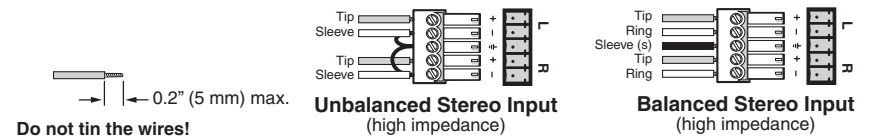
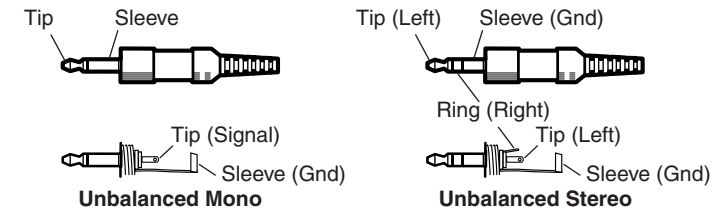
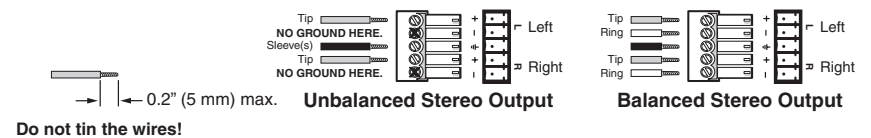

Figure 8 — Captive screw input connector wiring
Figure 9 — Phono audio connectors
Figure 10 — Captive screw connector wiring for audio output
- ⑤ **Audio Input connector** — Connect a balanced or unbalanced audio input to this 3.5 mm, 5-pole captive screw connector. Connectors are included, but you must supply the audio cable. See figure 8 to wire a connector for the appropriate input type and impedance level. High impedance is generally over 800 ohms.
NOTE When making connections for the MDA from existing audio cables, see figure 9. A mono audio connector consists of the tip and sleeve. A stereo audio connector consists of the tip, ring and sleeve. The ring, tip, and sleeve wires are also shown on the captive screw audio connector diagrams, figure 8 and figure 10.
- ⑥ **Audio Outputs (1 through 3) connectors** — Connect up to three balanced or unbalanced audio devices to these 3.5 mm, 5-pole captive screw connectors. Connect audio devices, such as an audio amplifier or powered speakers. See figure 10 to properly wire an output connector.